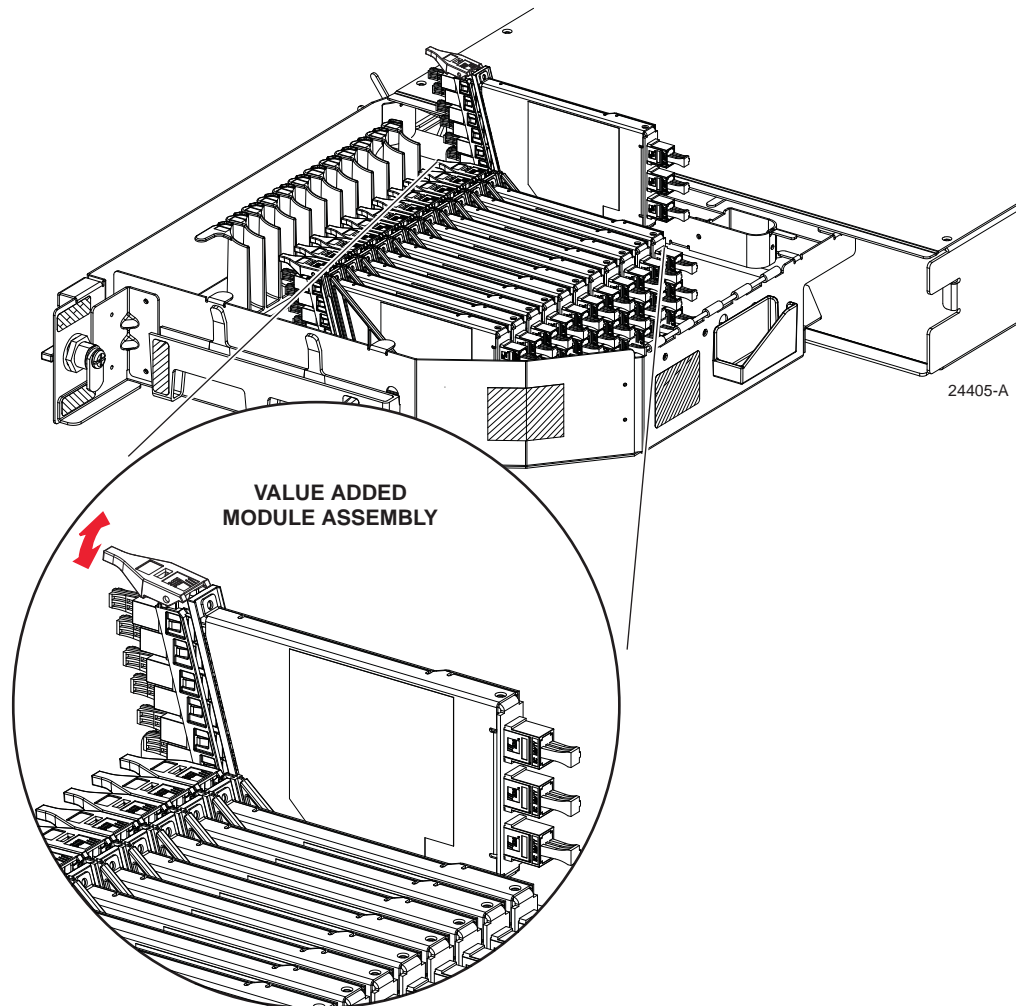

Figure 68. VAM In Access Position
2. Lift up the small tab on top of the VAM and lift up the VAM into the position shown in Figure 67 and Figure 68.